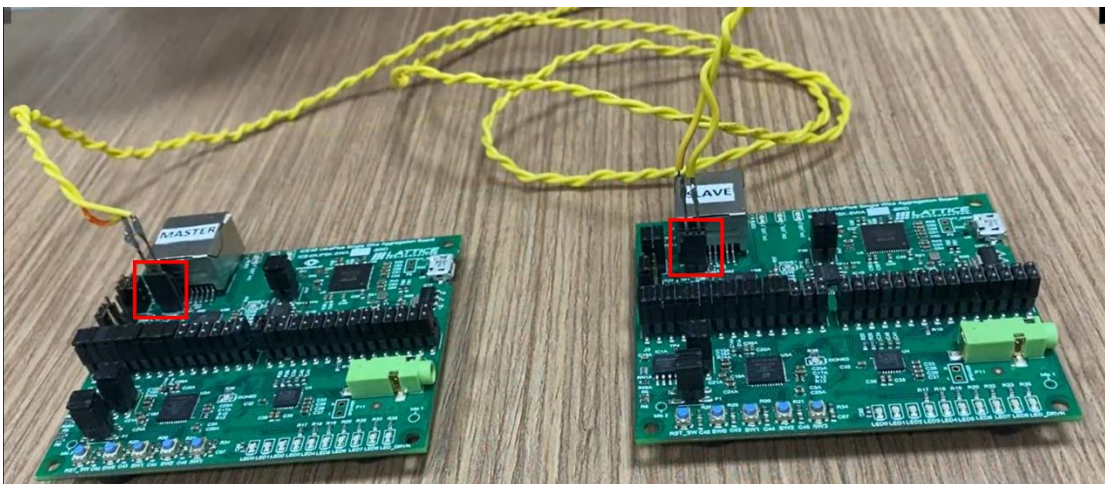

Figure 8.12. Connecting Single-Wire Link and Common Ground at Port P4.
6. Connect the Single-Wire Link and common ground on Port P4 as shown in Figure 8.12.